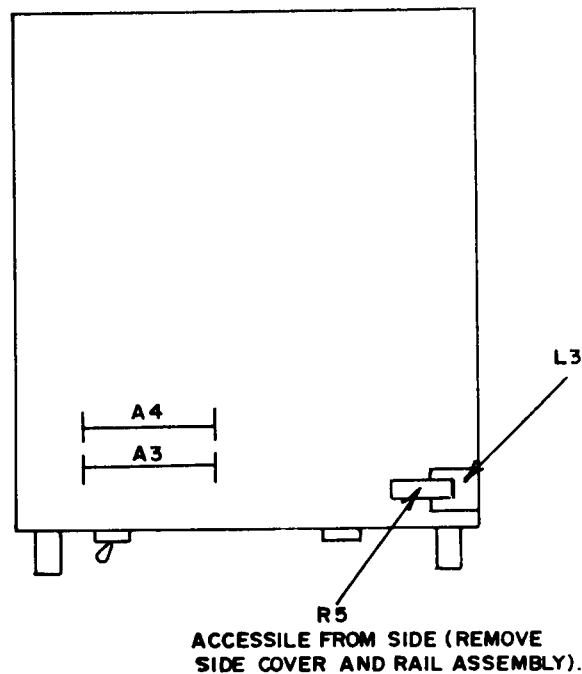

Figure 6. Model 746A top view - Adjustment locations.
(2) Set thermal transfer standard to ac balancing state. Adjust R5 (fig. 6) to obtain null indication on thermal transfer standard meter X pushbutton pressed (R).
(3) Press FREQUENCY RANGE X10K pushbutton and adjust FREQUENCY control to obtain FREQ scale indication of 10.0.
(4) Repeat (1) above.
(5) Set thermal transfer standard to ac balancing state. Adjust L3 (fig. 6) to obtain null indication on thermal transfer standard meter with its null X5 pushbutton pressed (R).
(6) Press OUTPUT OFF pushbutton.